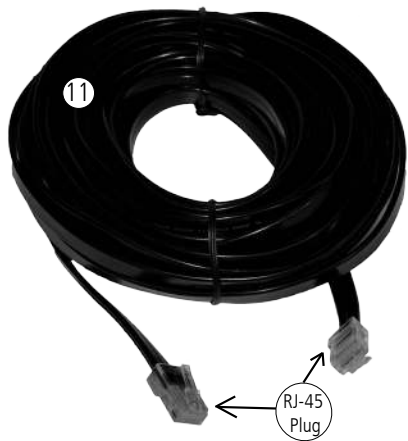

Fig 2.4(b) Cable for Remote Control
- 11. RJ-45 Data Cable (Straight Wired), 10 meter/33 feet length {Fig 2.4(b)}